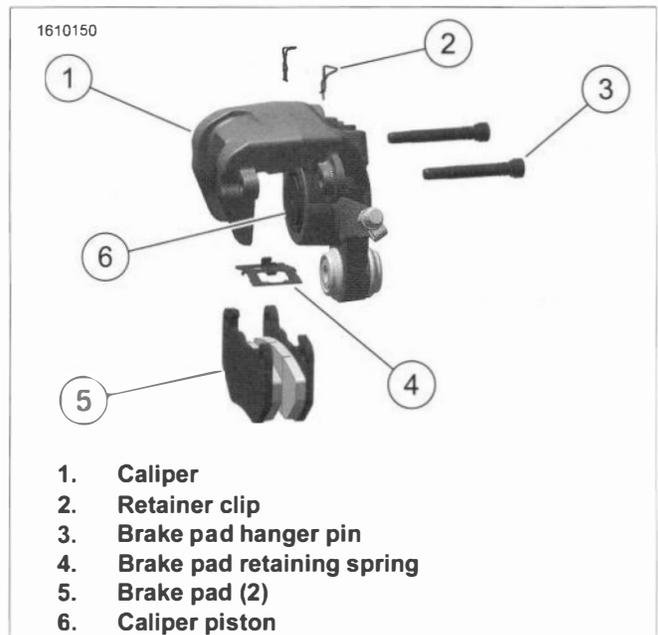

Figure 2-12. Rear Brake Pads
6. See Figure 2-12. Using the old brake pad and a C-clamp, retract the piston (4) fully into caliper (3).
1. See Figure 2-12. Position **new** brake pad retaining spring (4) in caliper (1).
2. Slide **new** brake pads (5) into caliper.
3. While holding brake pads, slide **new** brake pad hanger pins (3) through caliper and into brake pads. Tighten.